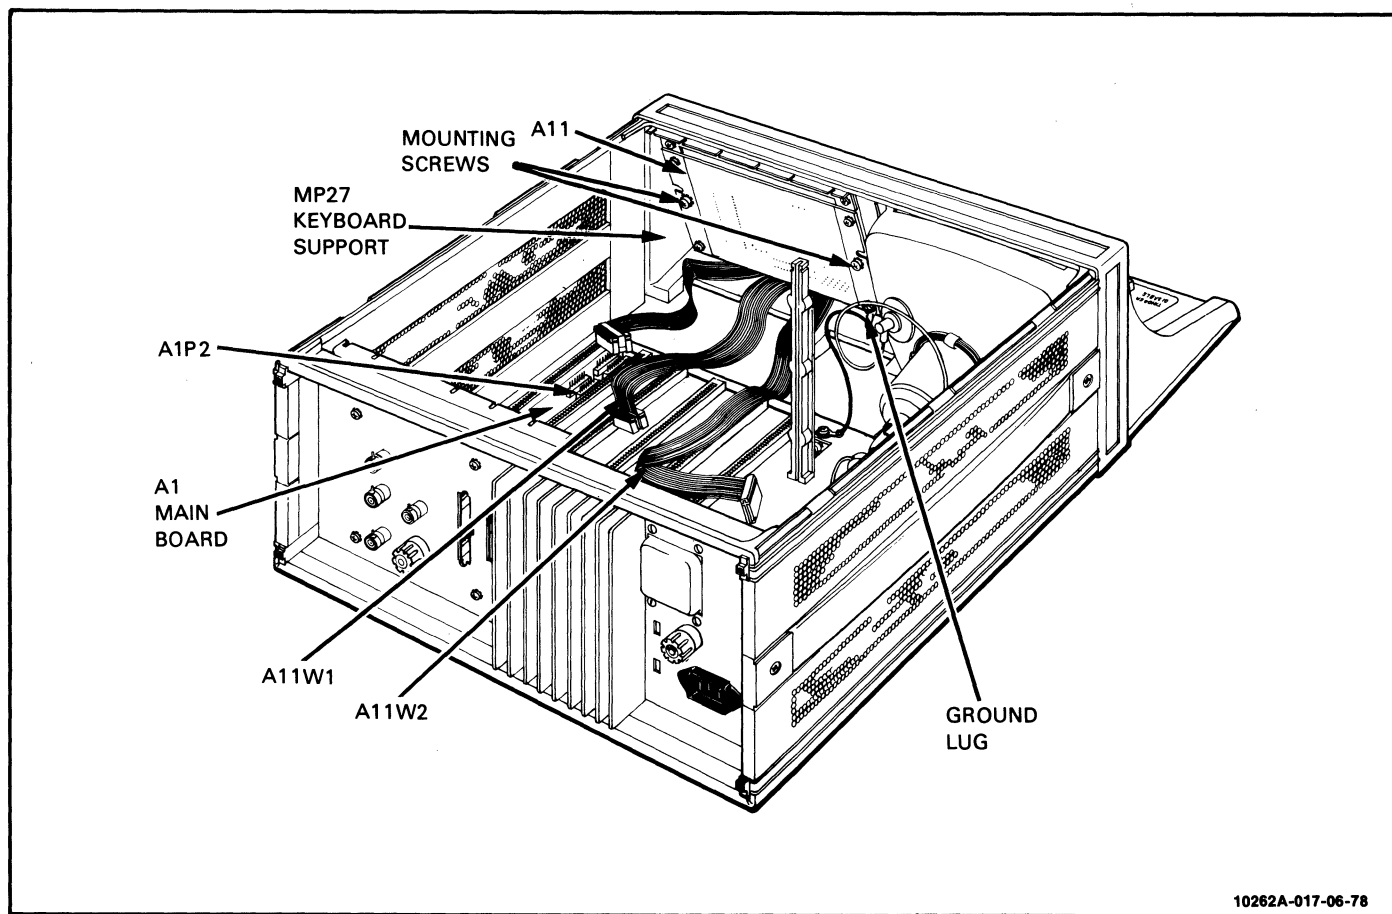

Figure 2-2. Installation of Personality Panel A11
10. Secure ground lug to A11 as shown in figure 2-2.
11. Connect A11W1 into main board connector A1P2 as shown in figure 2-2. Dot on main board indicates pin 1 of connector.